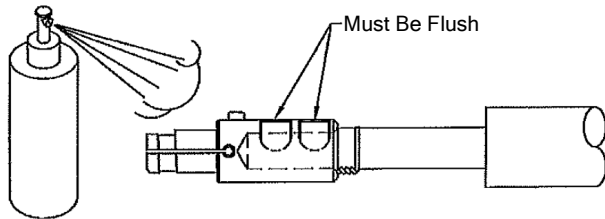

Figure 10
10. Liberally spray lubricant on the contact for insertion into the Cam-Lok sleeve. See Figure 10.